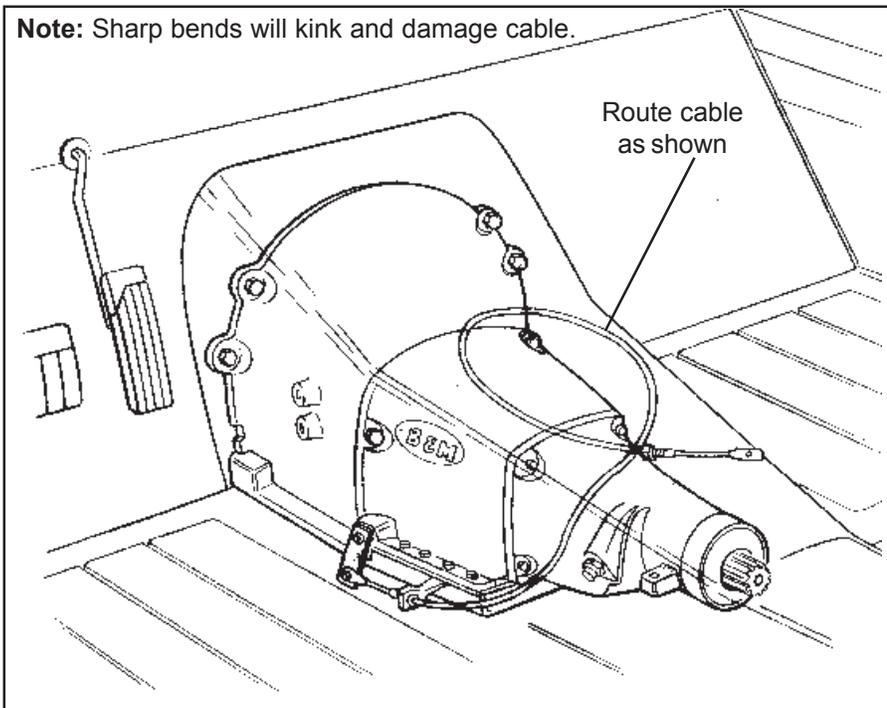

Figure 3
**STEP 5.** Route the shifter cable according to **figure 3** Avoid kinks and sharp bends and route the cable away from hot engine or exhaust parts.